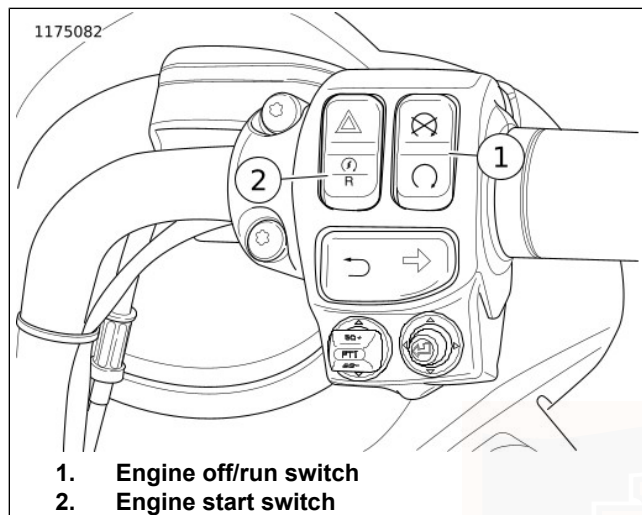

Figure 47. Right Handlebar Controls (typical)
2. Set the OFF/RUN switch to RUN. See Figure 47.